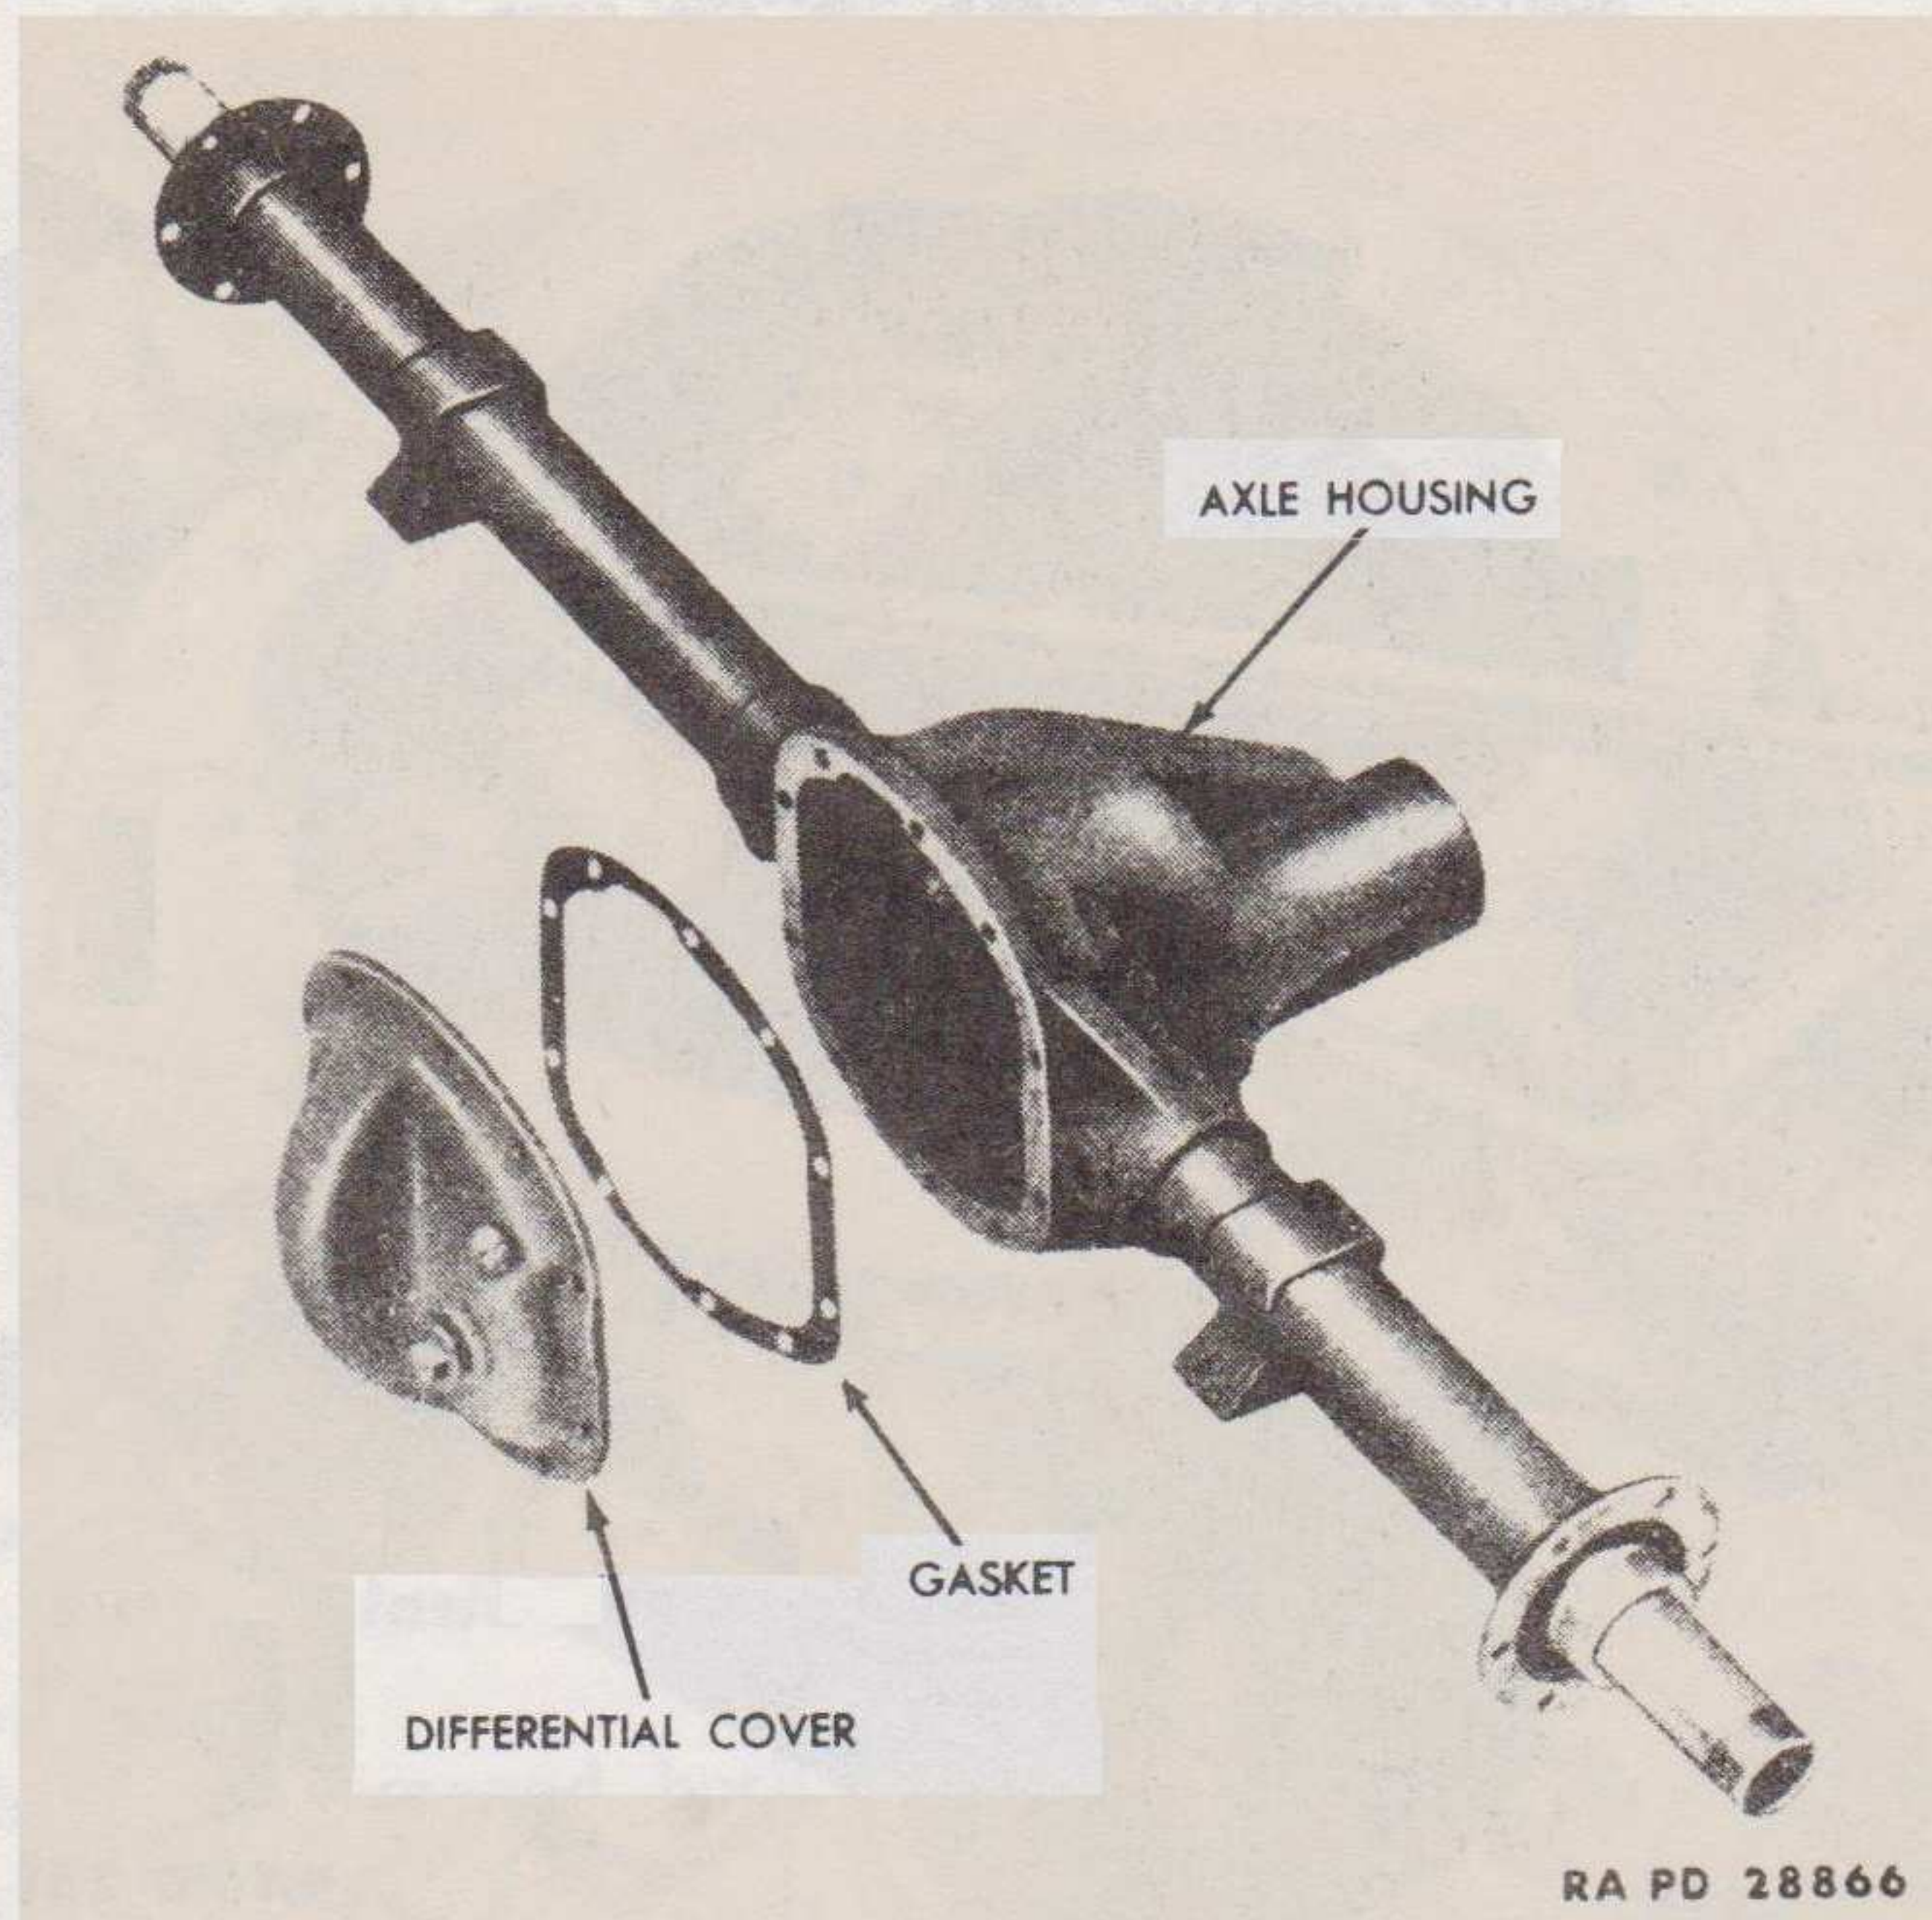

Figure 79 – Rear Axle Housing
(1) **AXLE HOUSING AND COVER** (fig. 79).